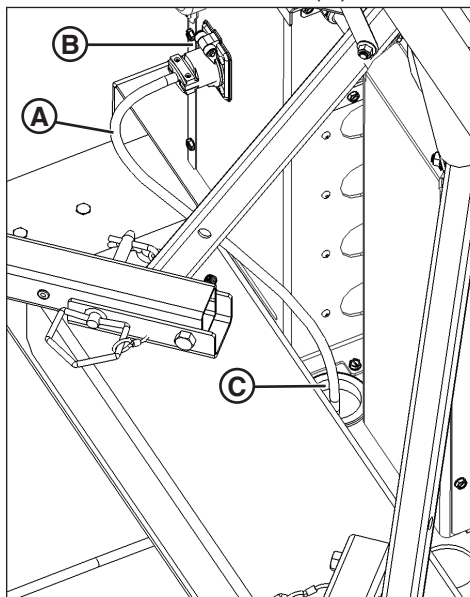

Figure 8
- Connect a heavy-duty, exterior-use power cord (A, Figure 8) from the power inlet (B) on the side of the unit (B) to a 120-volt AC power source. See **Specifications**.